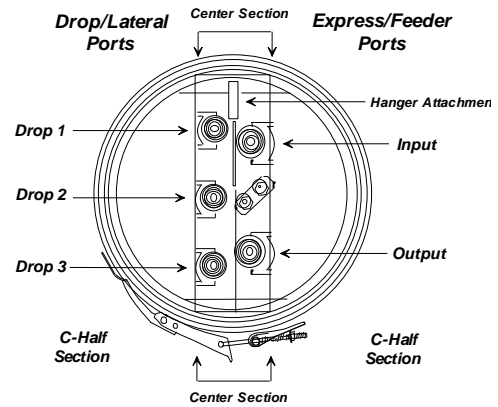

Figure 3 - Cable Port Selection Guide
- 5.02** The port closest to the center sections hanger attachment is used for the first cable entering either side. Refer to **Figure 3 - Cable Port Selection Guide**.